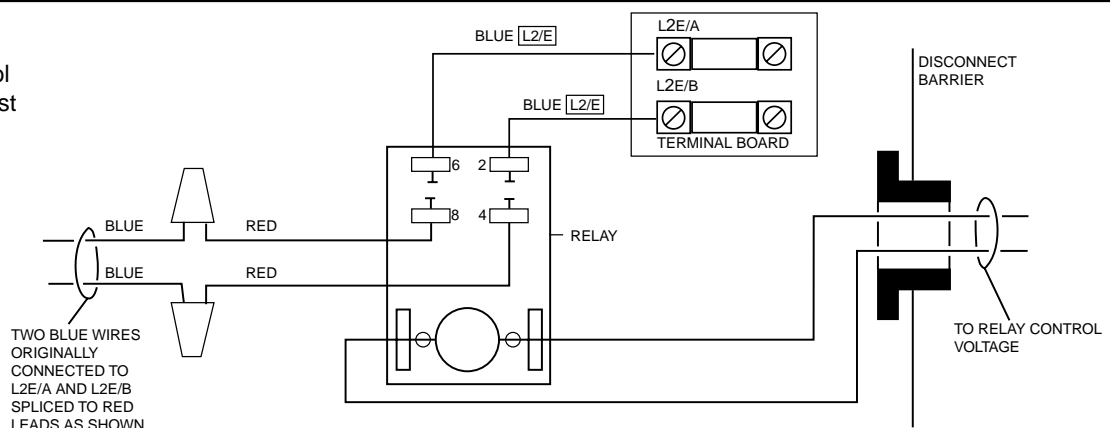

Figure 2
2. To wire the power relay, refer to the wiring diagram, Figure 2 and proceed as follows.